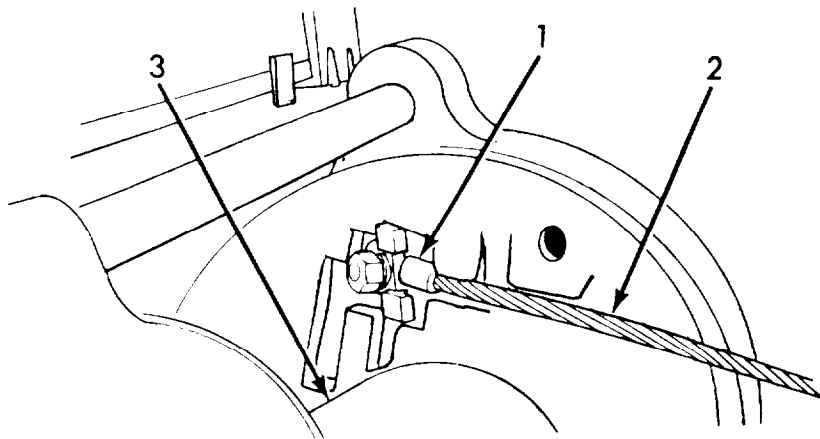

Figure 3.
6. Refer to Figure 3.
7. Seat wedge into ferrule (1) by completely unwinding all cable from drum and applying a load to the cable (2).
9. Rewind cable (2) onto drum (3), maintaining tension and guiding turns as close to preceding turn as possible.